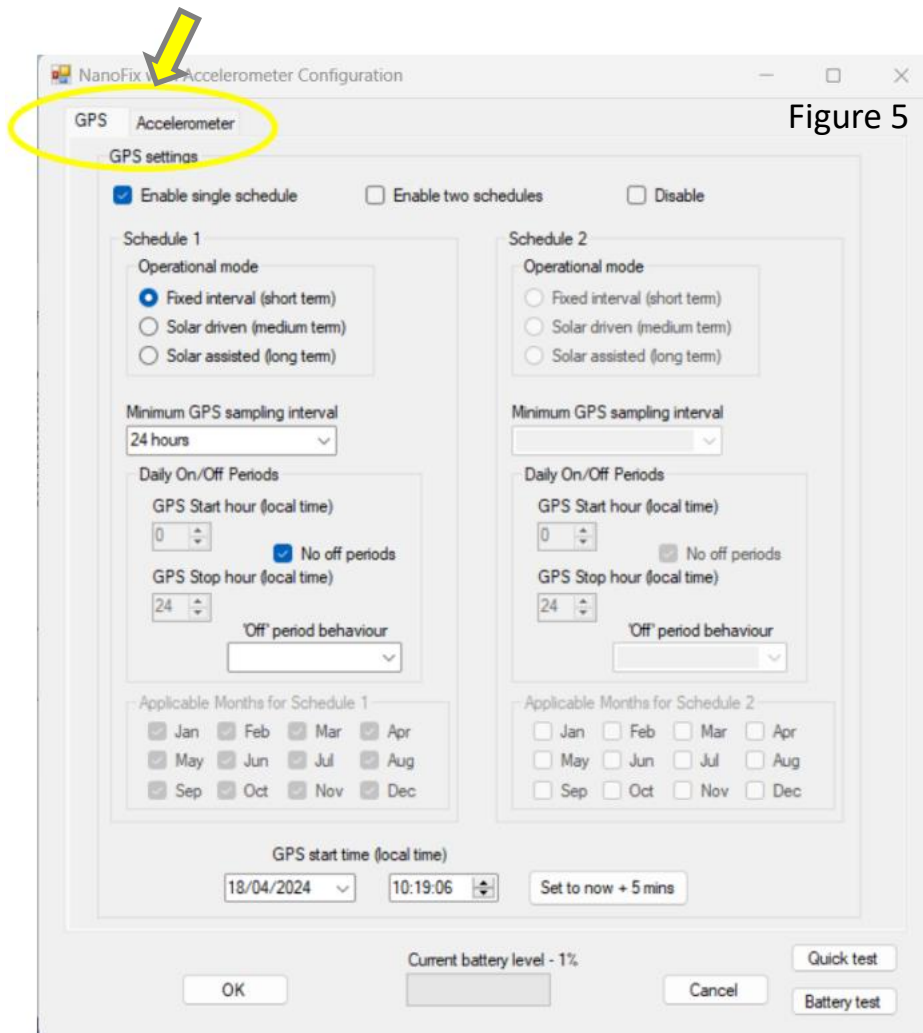
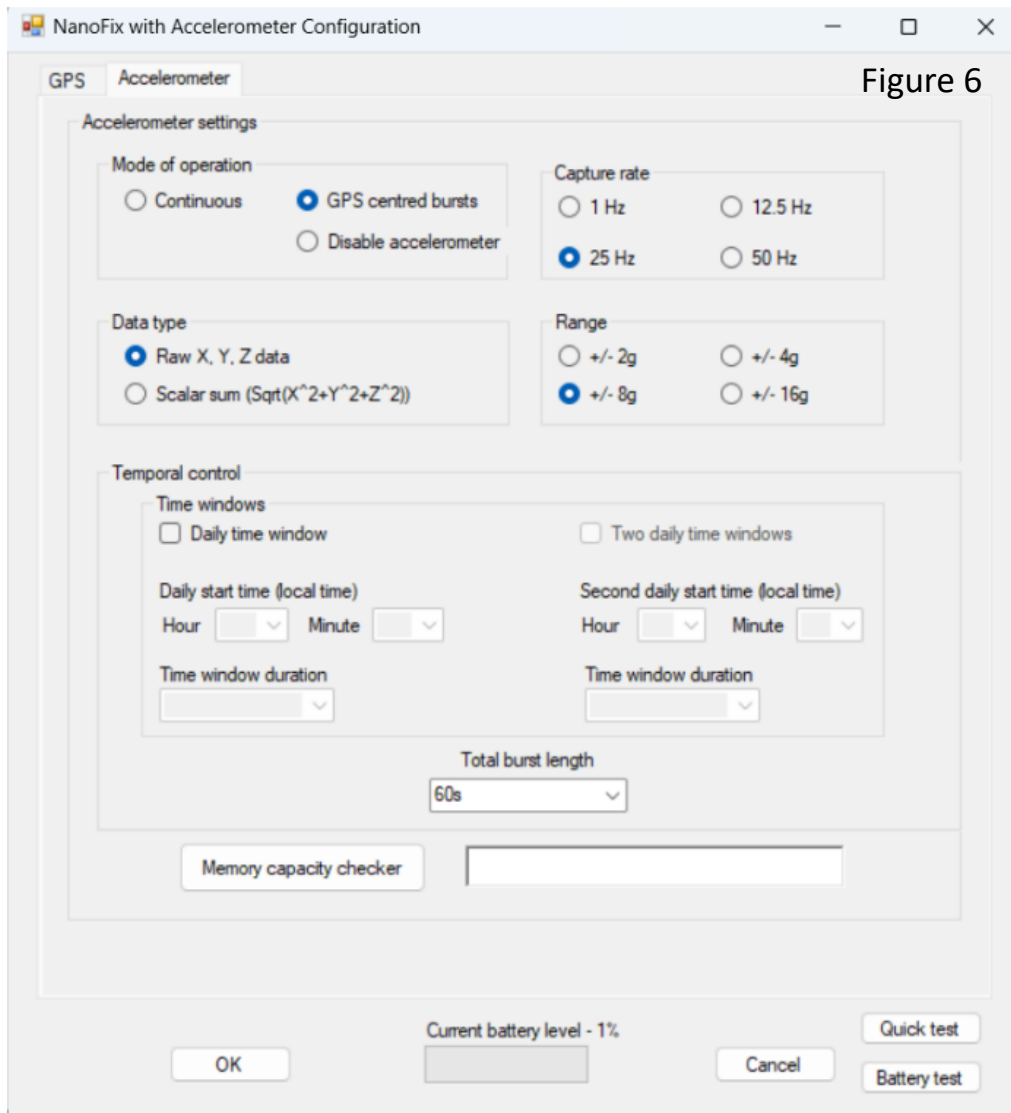

Figure 5
Figure 6
8. As these tags include an accelerometer there are two configuration screens that must be accessed and used in order to fully configure the tags. The two configuration screens appear as separate **tabs** as illustrated in Figure 5 below; one is for 'GPS' configuration (as shown in Figure 5), and one for 'Accelerometer' configuration (as shown in Figure 6, next page).
9. The software will automatically pre-populate the recommended deployment settings for your tags. The recommended settings are shown in Figure 5 and Figure 6. Therefore, all that is required is to set the GPS start time and date for the tags on the GPS configuration screen and Click 'OK'.